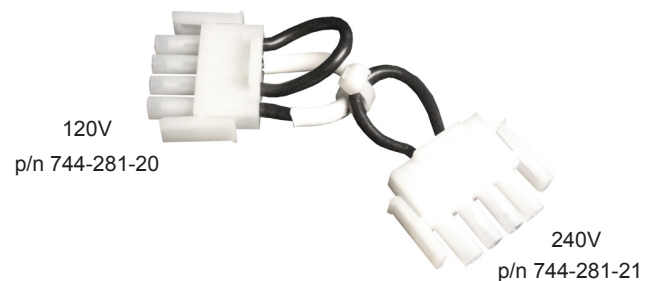

Fig. 2-18, 120/240V Connector
2. Connect the appropriate connector to the Transformer Harness. For the 120V configuration, connect the end with two wires. For the 240V configuration, connect the end with only one wire (see Fig. 2-18).